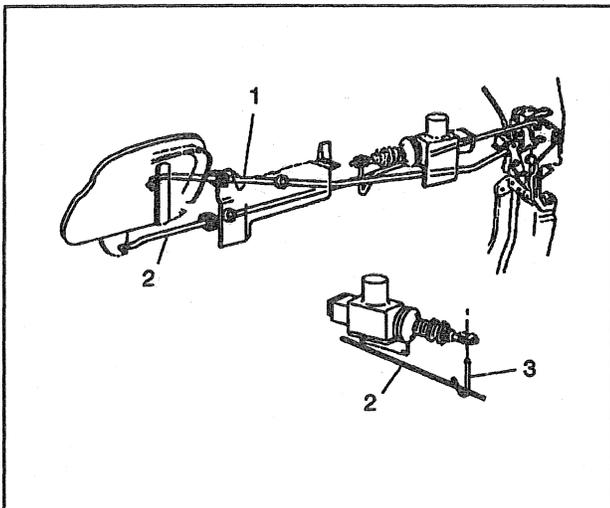

Figure 58—Rear Side Door Lock Actuator Control Rod
### Remove or Disconnect (Figure 58)
3. Actuator lock control rod (figure 58).
5. Actuator from door (figure 58).
### Install or Connect (Figure 58)